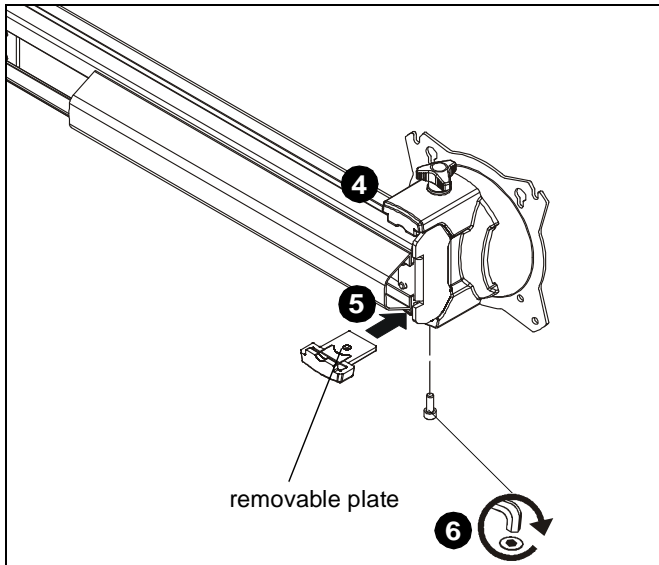

Figure 24
- Place faceplate assembly on array arm at desired mounting position. (See Figure 24)
- Slide removable plate back into slot at bottom of faceplate assembly. (See Figure 24)
- Reinstall hex head bolt removed in Step 1 to secure faceplate assembly to array arm. (See Figure 24)